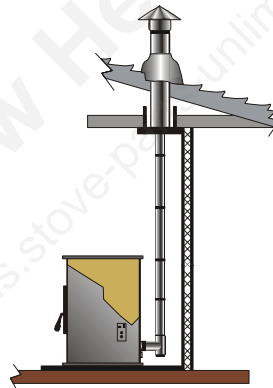

Figure 20
- 🔥 **VERTICAL, UP TO AN EXISTING CLASS A CHIMNEY OR MASONRY CHIMNEY**. An appropriately sized adapter will be needed when connecting onto either a Class A or into a masonry chimney. NOTE: The connection into a masonry chimney must be airtight. Figures 20, 21, and 23.